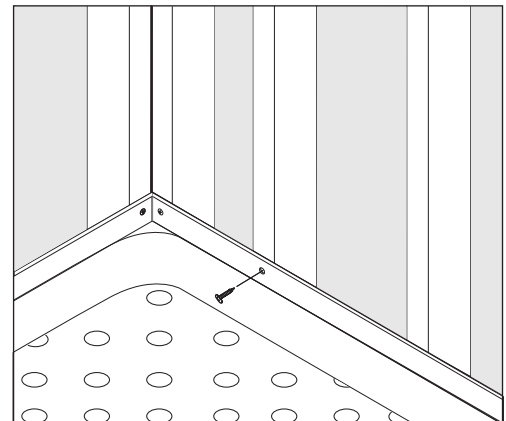

FIGURE 2. If necessary, shim between pan and studs for tight fit and screw to each stud.
- After pan is leveled, if alcove is larger than pan, shim between pan and studs to create a tight fit. Drill 3/16" holes in pan flange to create a tight fit. Drill 3/16" holes in pan flange at each stud. Screw pan flange to studs (**Fig. 2**).